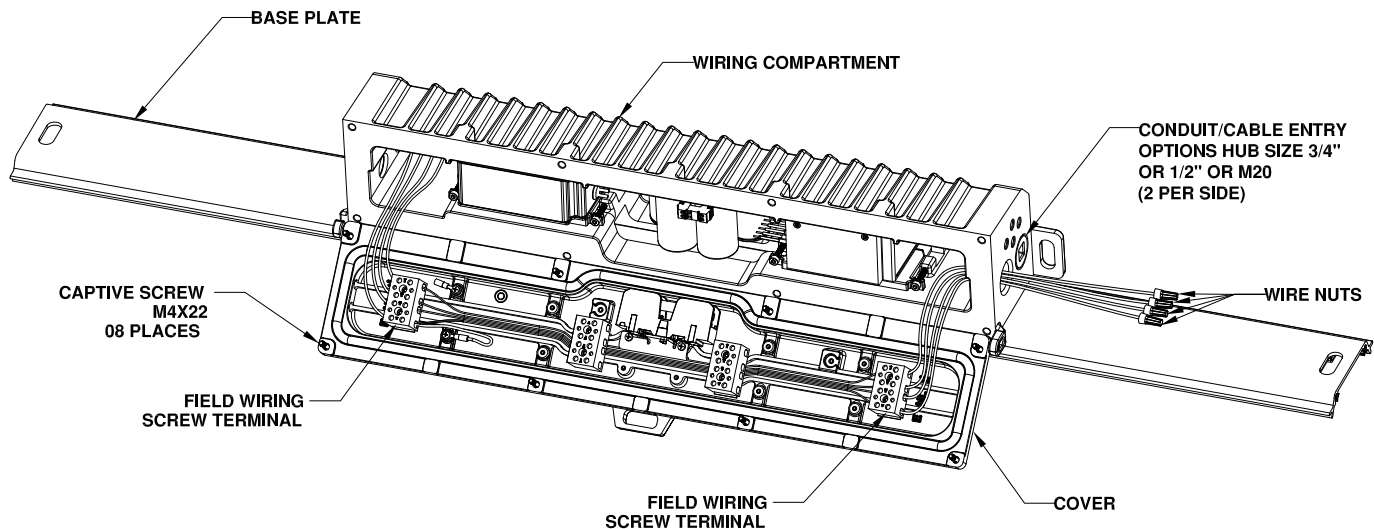

FIGURE 5: RIGMASTER EMERGENCY LUMINAIRE WITH WIRE NUT OPTION
A. Open the luminaire wiring compartment by loosening the eight captive screws on cover. Allow the cover to swing open, enabling access to the wiring compartment. See Figure 5.